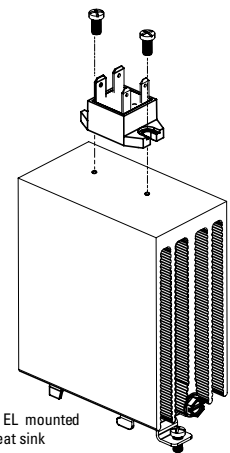

fig. 1 EL mounted on heat sink
- EL mounting slots have a diameter of 0.16 in (4.0 mm). Two screws are needed (not included) to mount the EL onto heat sink (See fig. 1). recommended screw size is 8-32 (UNC standard) or M4 (metric).